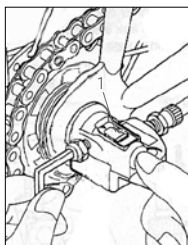

FIGURE 25:
2. Align the indicator on the bell crank window with the line on the push rod (Figure 25).